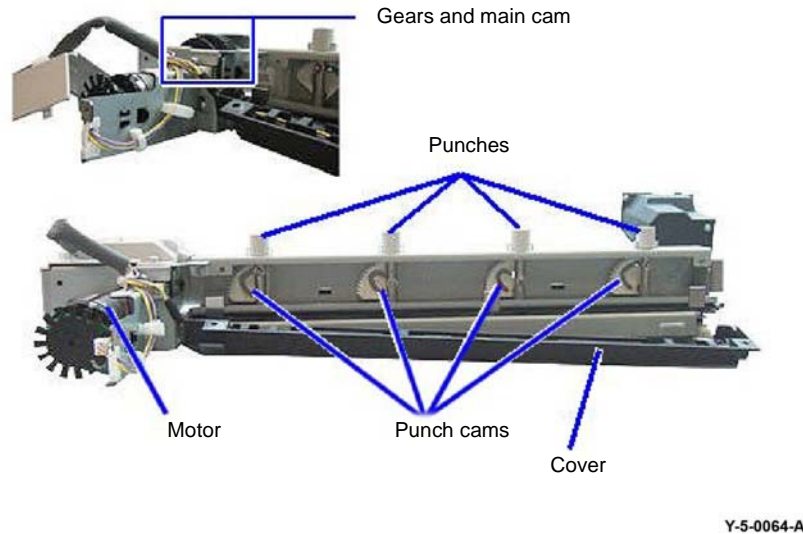

Figure 45 Hole punch components
When the motor rotates in a clockwise direction it operates the two inner punch cams and in a counter-clockwise direction it operates all four (XE) or three (USSG, XCL) punch cams. Refer to Figure 45.